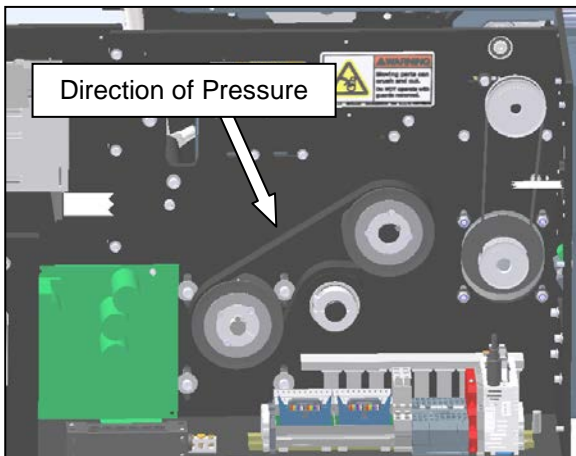

Figure 3-295. Pressure Bar Belt Tensioning
9. Reinstall the belt over the gearbox pulley. Once engaged, press down on the gearbox and motor to tension the belt. At proper tension, the belt should deflect about 3/32" using two fingers and depressing perpendicular to the belt span. Once at proper tension, tighten the four mounting screws (Figure 3-295).